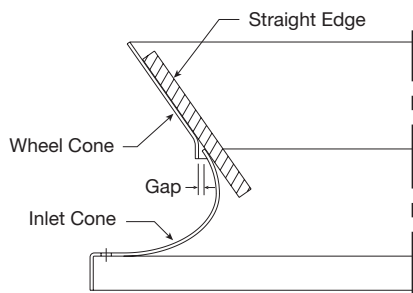

Figure 3
1. **Check all fasteners for tightness:** The wheel should rotate freely and be aligned as shown in Figure 3. Wheel position is preset and the unit is tested at the factory. Movement may occur during shipment, and realignment may be necessary. Centering can be accomplished by loosening the bolts holding the inlet cone (venturi) and repositioning.
2. **Wheel and inlet cone overlap:** Rotate the fan wheel by hand and assure no parts are rubbing. The wheel should rotate freely and be aligned as shown in Figure 3. Wheel position is preset and the unit is tested at the factory. Movement may occur during shipment, and realignment may be necessary.
Alignment - If necessary, adjust wheel position by loosening the wheel hub from the fan shaft so that a straight edge held tight to the wheel cone just touches the inlet cone. Refer to Figure 3.
Wheel improperly aligned and rubbing	Center wheel on inlet, see Figure 3.
Improper wheel alignment	Center wheel on inlet, see Pre Start-Up Checks and Figure 3.